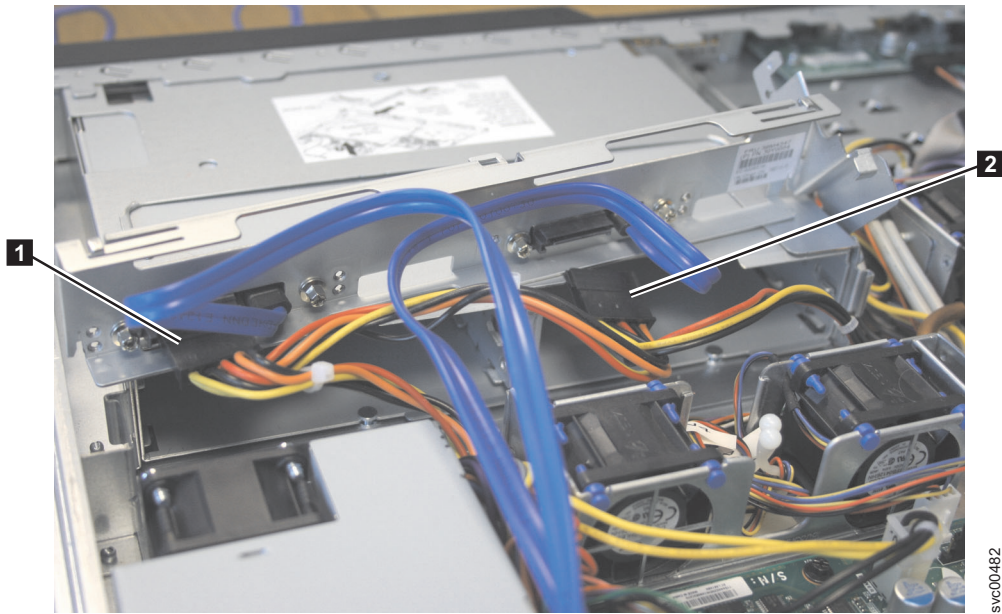

Figure 267. SAN Volume Controller 2145-8A4 power supply connectors
9. Remove power connectors P1 **1** and P6 **2**, as shown in Figure 267.